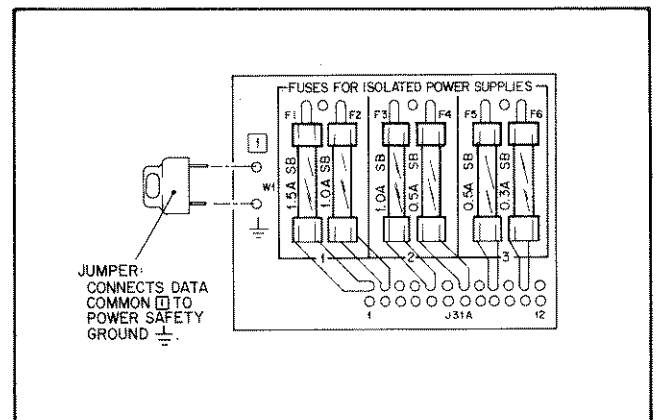

Figure 2-12. Fuse Board for Isolated Power Supplies
fuse board. As shown in Figure 2-12, each isolated supply has two fuses. The fuse board is located behind the front grill and to the right of the fan assembly. To gain access to the fuses, proceed as follows:
2-51 Jumper W1 on the fuse board (Figure 2-12) connects the data common ground (1) to the power (safety) ground \perp . The jumpers are installed on all 6942A and 6943A units as they are shipped from the factory. They should be left installed for best noise immunity. However, if the 6943A Extender Units are spread over a long distance, the jumpers may be removed from the 6943's to prevent ground loops.